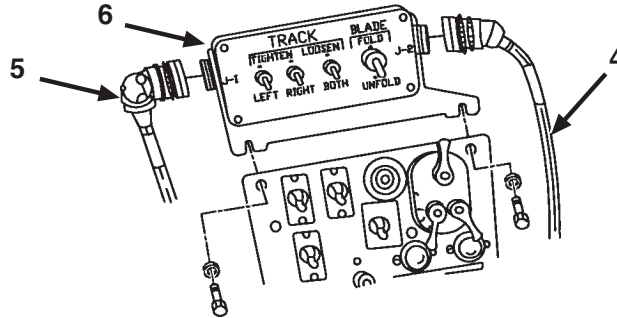

Figure 94. Manifold Wiring Harness Installation.
Step 1 applies to Figure 94.
1. Install manifold harness connector (item 4) on track and blade control box (item 6).